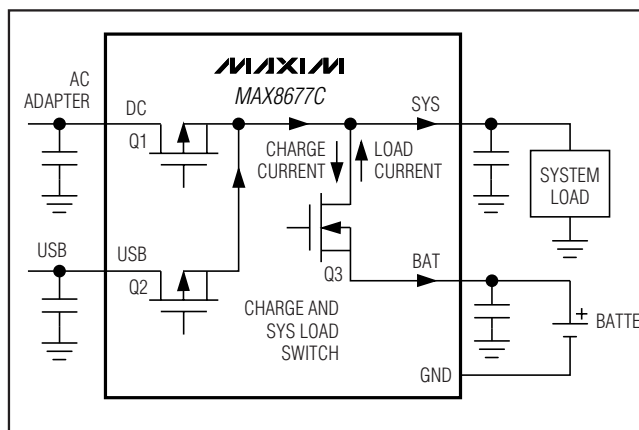

Figure 4. Smart Power Selector Block Diagram
The MAX8677C Smart Power Selector seamlessly distributes power between the external inputs, the battery, and the system load (Figure 4). The basic functions performed are:
An internal 40mΩ MOSFET connects SYS to BAT (Q3, Figure 4) when no voltage source is available at DC or USB. When an external source is detected at DC or USB, this switch is opened and SYS is powered from the valid input source through the input limiter.
The input voltage limiter is essentially an LDO regulator. While in dropout, the regulator dissipates a small I^2R loss through the 0.2Ω MOSFET (Q1, Figure 4) between DC and SYS. With an AC adapter or USB source connected, the input limiter distributes power from the external power source to the system load and battery charger. In addition to the input limiter's primary function of passing power to the system and charger loads at SYS, it performs several additional functions to optimize use of available power:
- **Input Voltage Limiting.** If an input voltage is above the overvoltage threshold (6.9V typ), the MAX8677C enters overvoltage lockout (OVLO). OVLO protects the MAX8677C and downstream circuitry from high-voltage stress up to 14V at DC and 8V at USB. In OVLO, VL remains on, the input switch that sees overvoltage (Q1, Q3, Figure 4) opens, and the appropriate power-monitor output ($\overline{DOK}$, $\overline{UOK}$) is high impedance, and $\overline{CHG}$ is high impedance.
If both DC and USB see overvoltage, both input switches (Q1 and Q2, Figure 4) open and the charger turns off. The BAT-SYS switch (Q3, Figure 4) closes, allowing the battery to power SYS.
An input is also invalid if it is less than BAT, or less than the DC undervoltage threshold of 3.5V (falling). With an invalid input voltage, SYS connects to BAT through a $40m\Omega$ switch (Q3, Figure 4).
- **Adaptive Battery Charging.** While the system is powered from DC, the charger draws power from SYS to charge the battery. If the charger load plus system load exceeds the input current limit, an adaptive charger control loop reduces charge current to prevent the SYS voltage from collapsing. Maintaining a higher SYS voltage improves efficiency and reduces power dissipation in the input limiter. The total current through the switch (Q1 or Q2 in Figure 4) is the sum of the load current at SYS and the battery charging current. The limiter clamps at 4.35V, so input voltages greater than 4.35V can increase power dissipation in the limiter. The limiter power loss is $(V_{\text{DC}} - 4.35) \times I$, but not less than $I^2 \times 0.2\Omega$. Also note that the MAX8677C turns off any input that exceeds 6.9V (nominal).